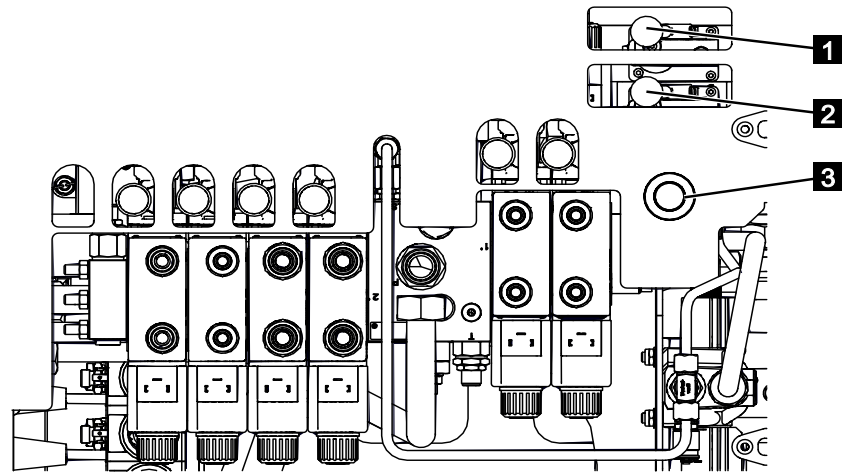

Fig. 189
5. Press and hold the button [emergency mode] (Fig.189/3).